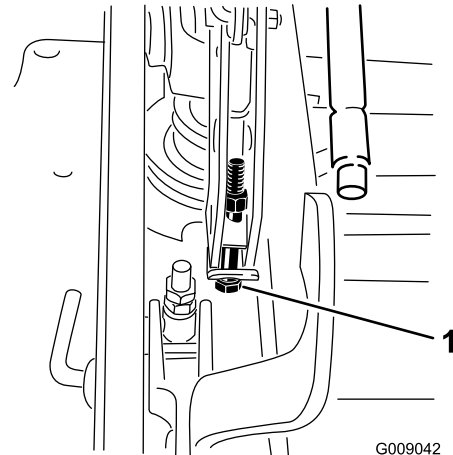

Figure 85
- If the deck is too low, tighten the single point adjustment bolt by rotating it clockwise. If the deck is too high, loosen the single point adjustment bolt by rotating it counterclockwise (Figure 85).